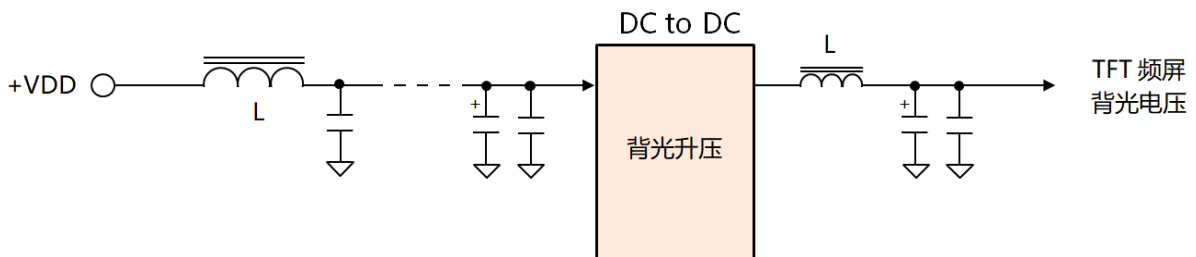

Figure 7: TFT Backlight DC to DC Output/Input Adding LC
- TFT panel back light DC to DC power input and output, add Choke (magnetic beads) in addition to filter capacitor. (Figure 7, 8)